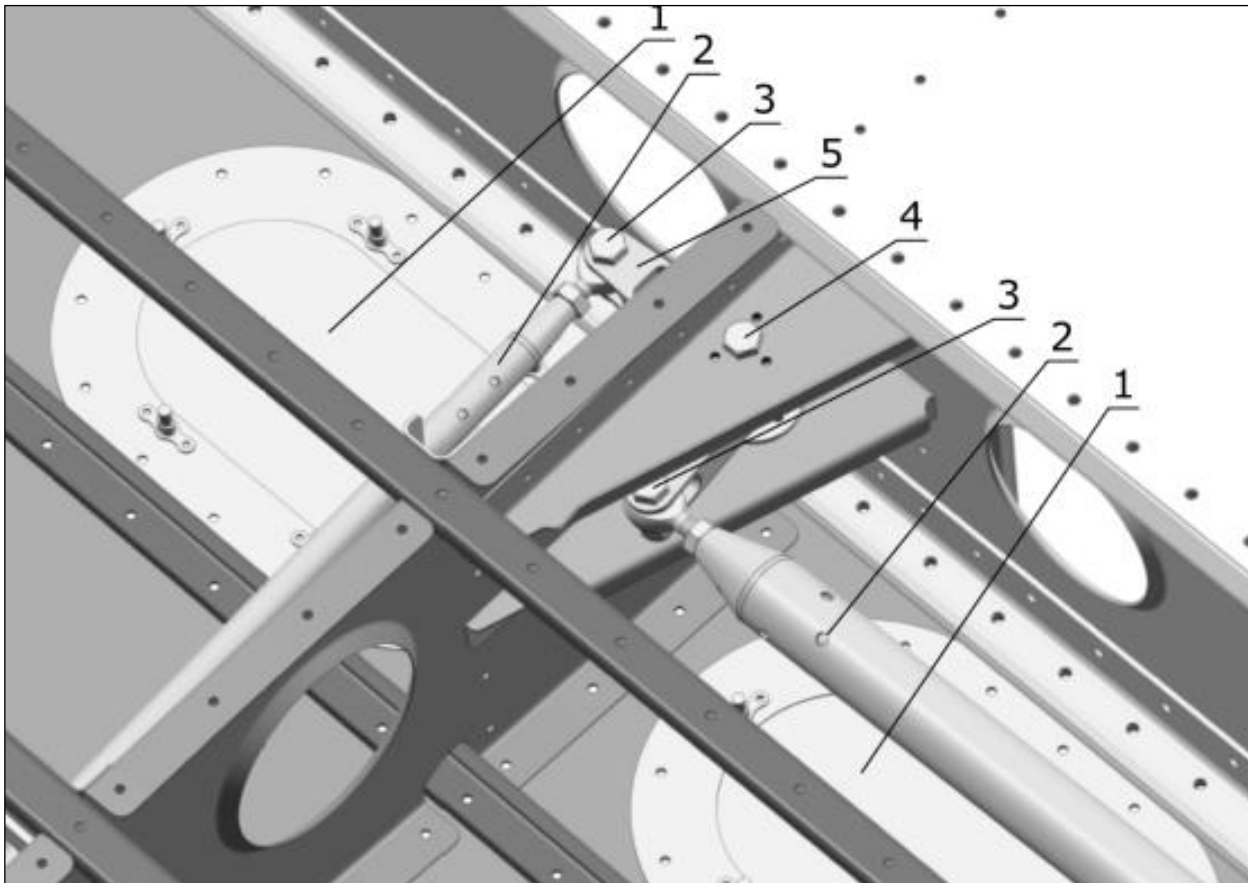

Figure 5 *Aileron Control Bell Crank Removal/Installation*
The procedure is identical for the left and the right wing (see Fig. 5).
The procedure is identical for the right and the left wing (see Fig. 5).
- ▶ Set the bell crank (5) to the position (see Fig. 5), insert the bolt (4) to the hole in the bell crank and brackets and secure it with self-locking nut.
- ▶ According to the Fig. 5 connect push rods (2) to the bell crank.